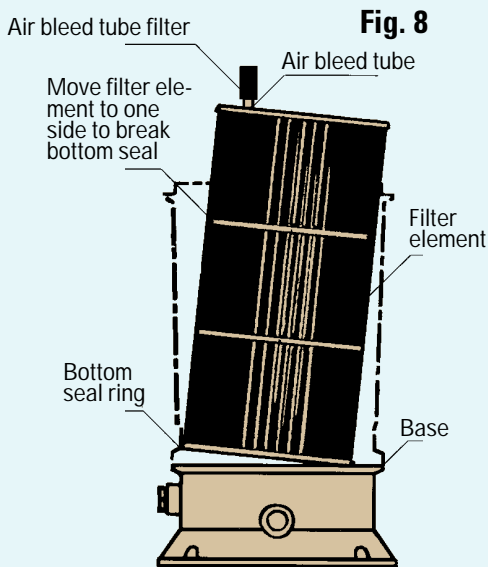

Fig. 8
10. Pull element upwards (see Figure 8) to free seal.